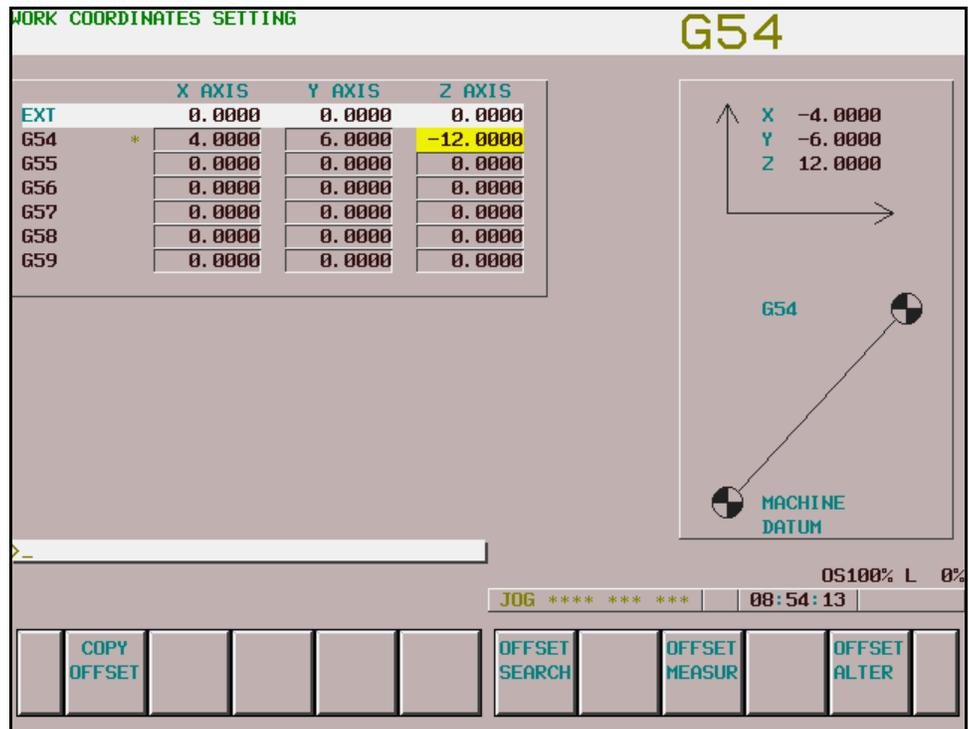

Figure 6-5: Work Coordinates Setting Screen
The value now contained in the Z axis table will be the distance from the machine coordinate to the datum edge and should be a negative Z-axis value (Figure 6-5:)
2. Using the cursor keys, highlight the offset just set (e.g. G54) (Figure 6-5:).
3. Press the COPY OFFSET softkey (Figure 6-5:).